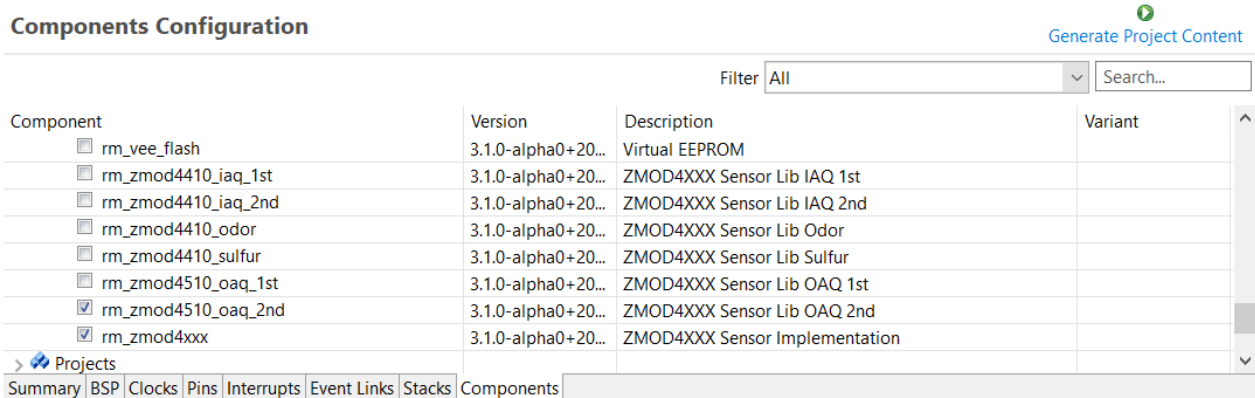

Figure 4. Component Configuration in Renesas e² studio
- Navigate to the **Components** tab, open the Middleware/all folder, and select the required sensor and mode of operation. For the case shown in Figure 4, select the **rm_ZMOD4xxx_rx** and **rm_zmod4510_oaq_2nd**.